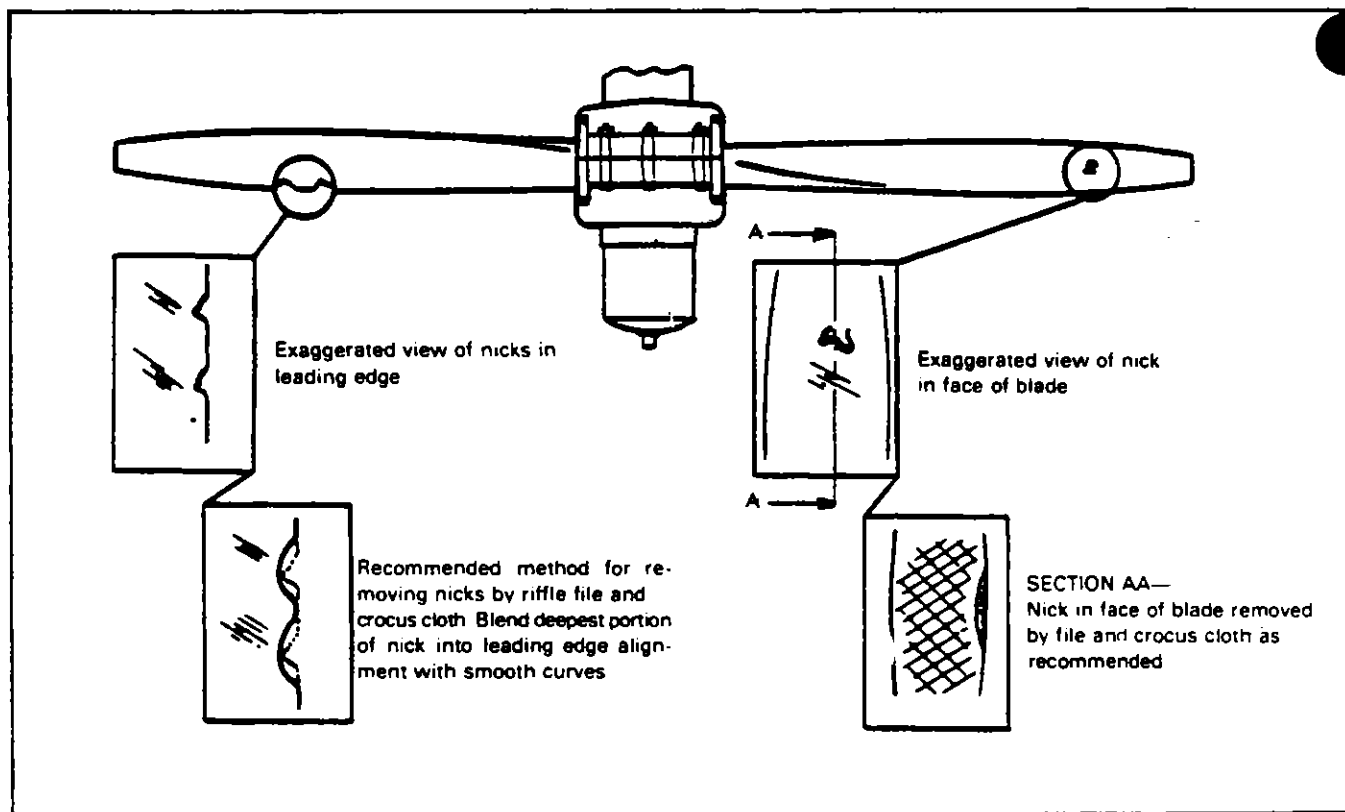

FIGURE 7A-2. TYPICAL NICKS AND REMOVAL METHOD
**7A-13. Cleaning, Inspection and Repair Of Propeller.** (Refer to Figure 7A-2.)